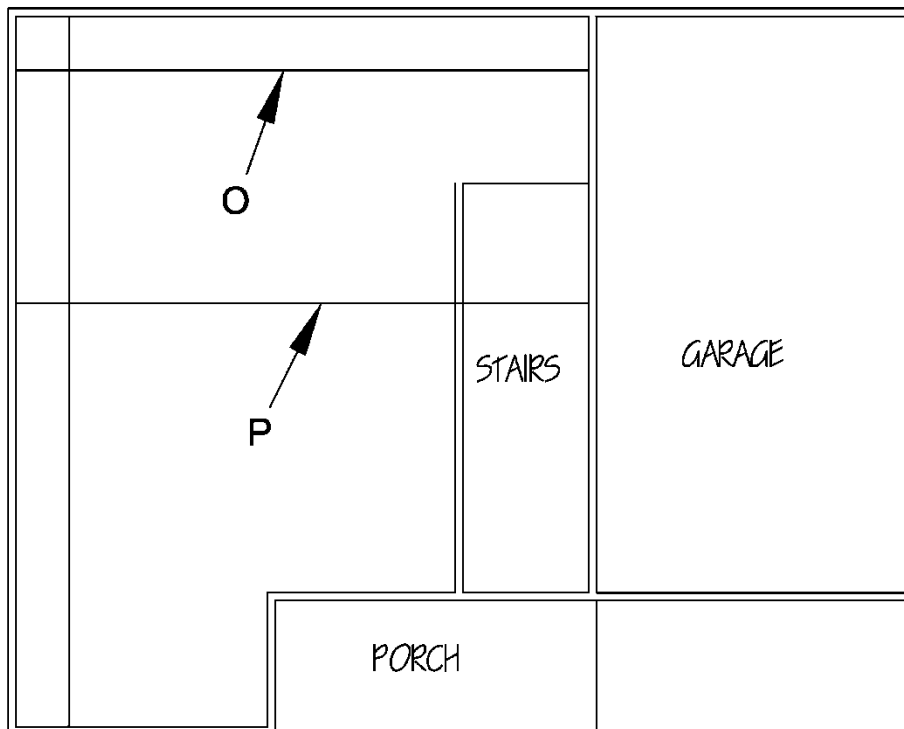

Fig 1-17
Click on the Offset button again and type **8'8 <e>**. Click on the new horizontal line (O in Fig 1-17) and click below that line to create new line (P).